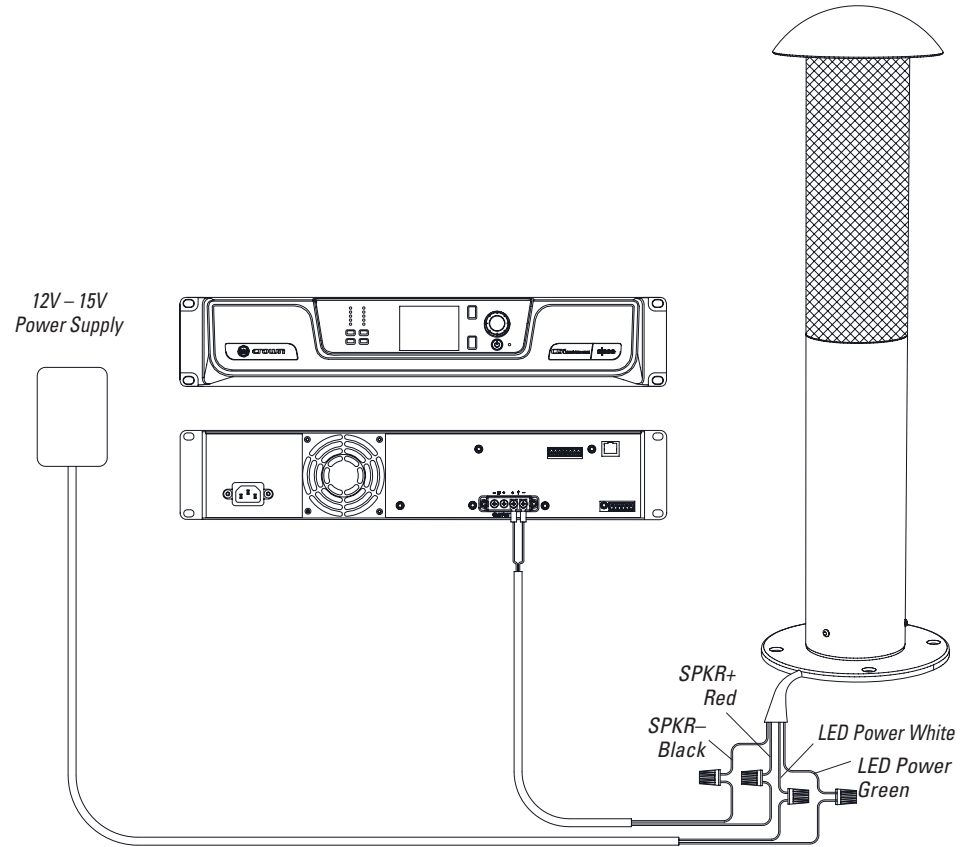

Figure 25
2. Connect the red (+) speaker input pigtail wire to the (+) wire from the amplifier output, and the black (-) speaker input pigtail wire to the (-) wire from the amplifier (see Figure 25). Use crimp connectors or wire nuts for the connection. For greater reliability make the connection inside an underground IP65 waterproof electrical junction box.